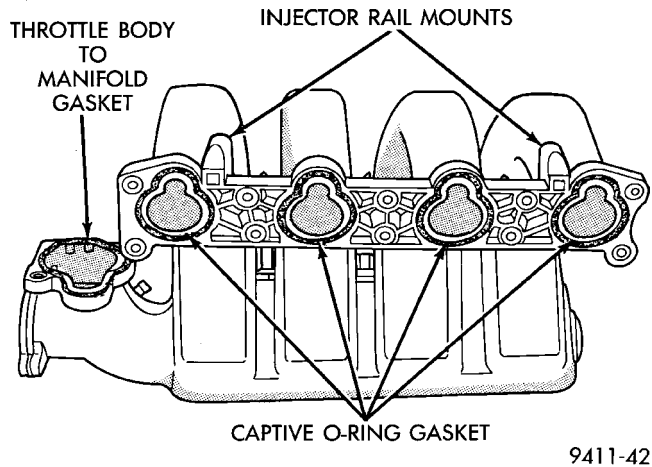

Fig. 30 Intake Manifold O-Rings
- Check for torn or missing O-rings at the mating surface of the manifold (Fig. 30).